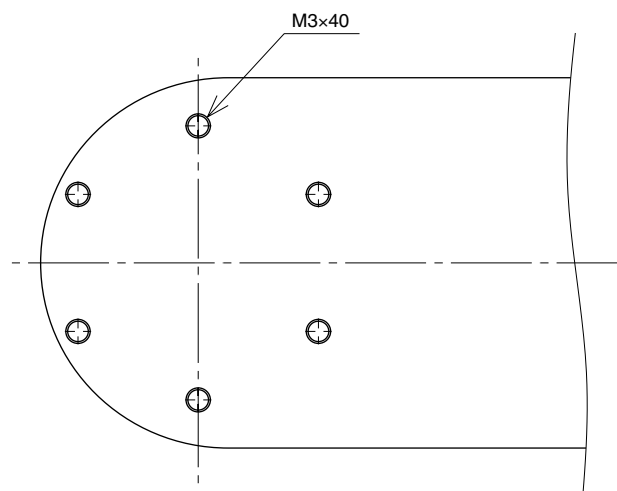

Fig. 5-8
14) Place the new harmonic drive on the X-axis arm, and secure it with the bolts (M3×40L, 6 pieces). Apply small amounts of "Screw Lock" to the bolts and tighten uniformly them to secure the harmonic drive from the backside. (See Fig. 5-8.)